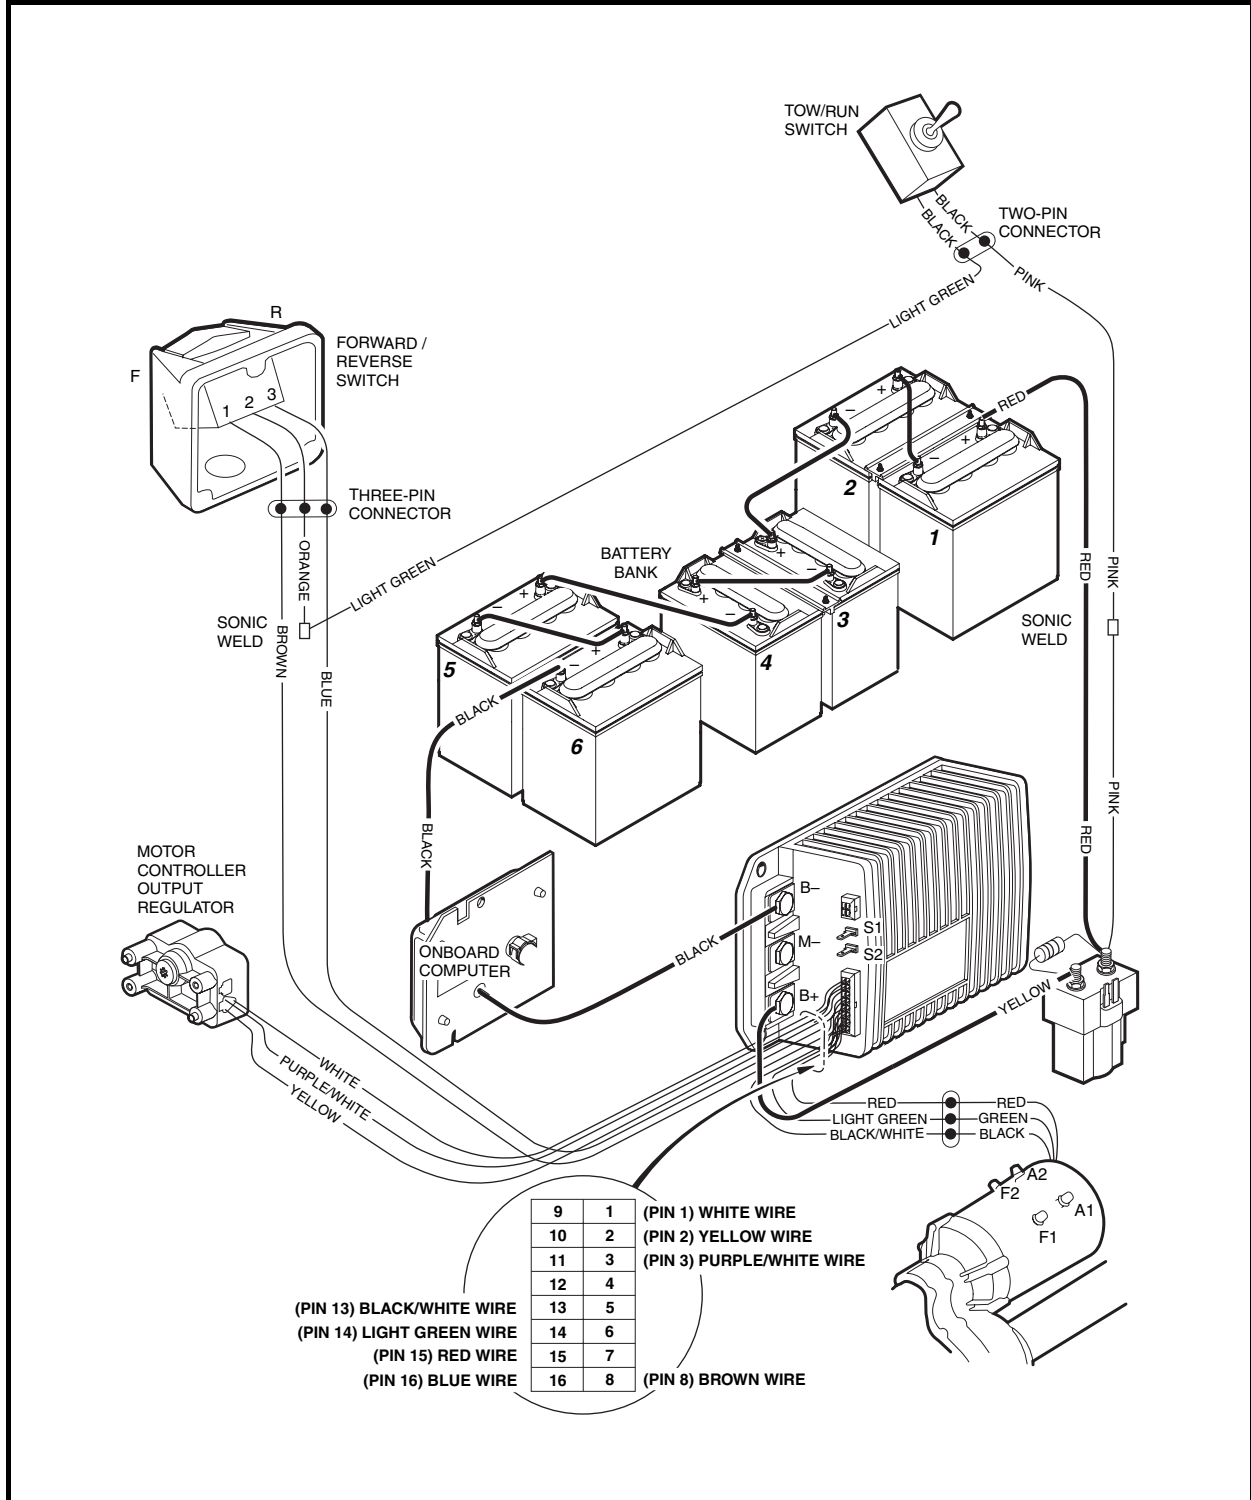

Figure 11-2 Solid State Speed Control Circuit
- Control circuit (**Figure 11-2, Page 11-6**)
- Solid state speed control circuit (**Figure 11-2, Page 11-6**)